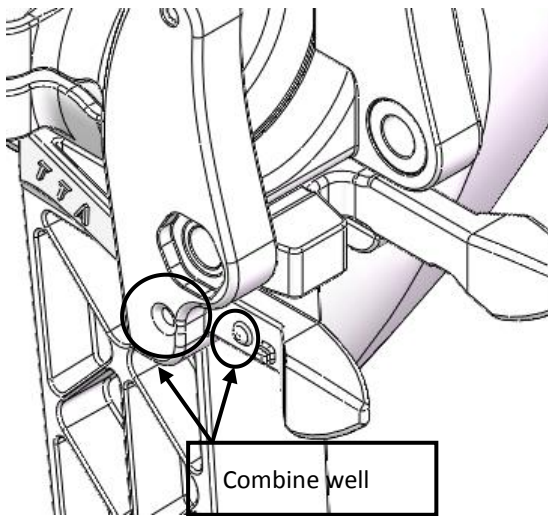

Figure 5
- 4) Slip the landing gear gently into the fillister mark 7. of fuselage as the “Mounting Direction” arrow of Figure5. Make the bulge mark 5. stuck into the fillister mark 8 and the part mark 6 get into the fillister mark 9 as the “Limit Direction” arrow to complete the installation.